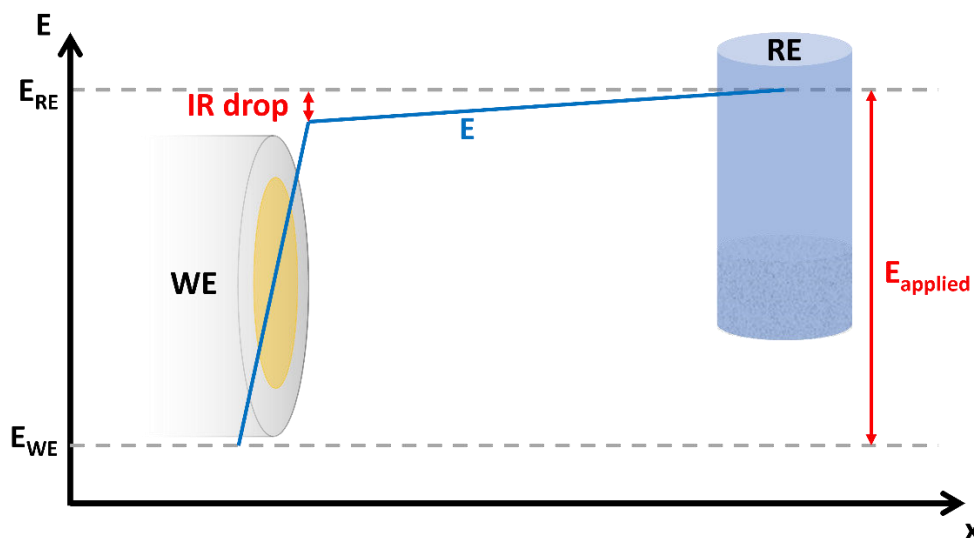

Figure 1 Scheme of a potential profile between RE and WE with highlighted IR drop
When using a potentiostat we may think that the applied potential is only applied across the working electrode's solid-liquid interface. However, in a real system, the potentiostat applies the potential between the reference electrode (RE) and the working electrode (WE). Between the WE and RE interfaces there is some electrolyte, which acts as an Ohmic resistor. This resistance leads according to Ohm's law to a potential drop of current times resistance or $I \cdot R$ (see Figure 1).